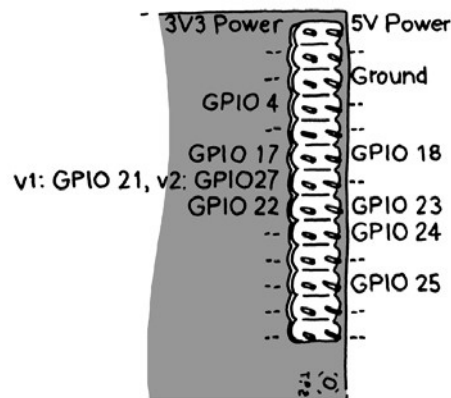

Figure 4[b]
- [b] A red LED, a green LED and a switch are connected to pin 4, 17 and 18 of a Raspberry Pi microcontroller respectively. Draw the electrical circuit showing the connections. Figure 4[b] shows the GPIO pins on the Raspberry Pi microcontroller.